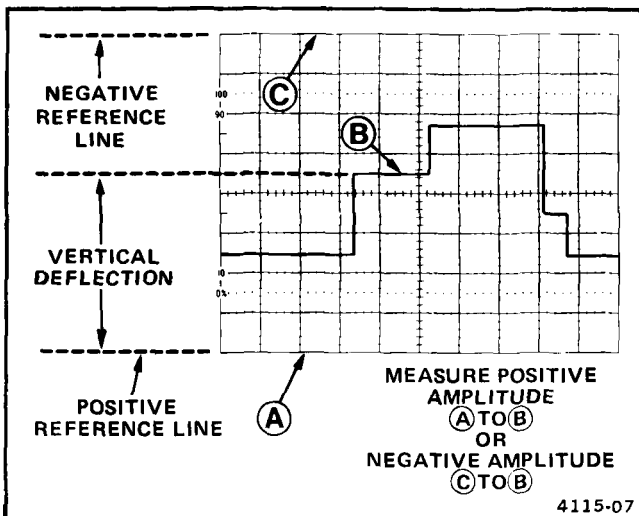

Figure 4-3. Instantaneous voltage measurement.
11. Measure the divisions of vertical deflection between the reference line and the desired point on the waveform at which the dc level is to be determined (see Figure 4-3).
**EXAMPLE:** The measured vertical deflection from the reference line is 4.6 divisions (see Figure 4-3), the waveform is above the reference line, the VOLTS/DIV switch is set to 2, a 10X attenuator probe is being used, and the A TRIGGER SLOPE switch is set to OUT: .